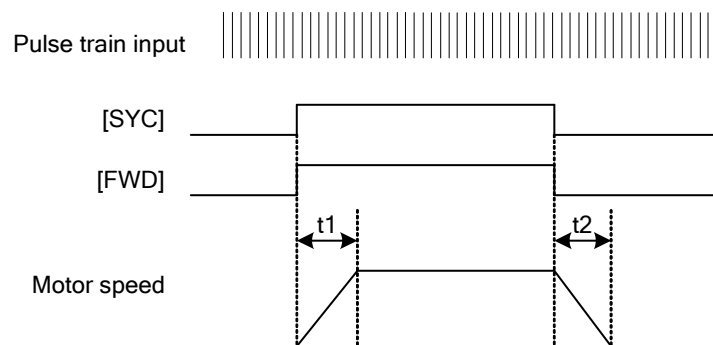

Figure 6.2.30
Times t_1 (S) and t_2 (S) in Figure 6.2.30 cannot be controlled by the inverter.